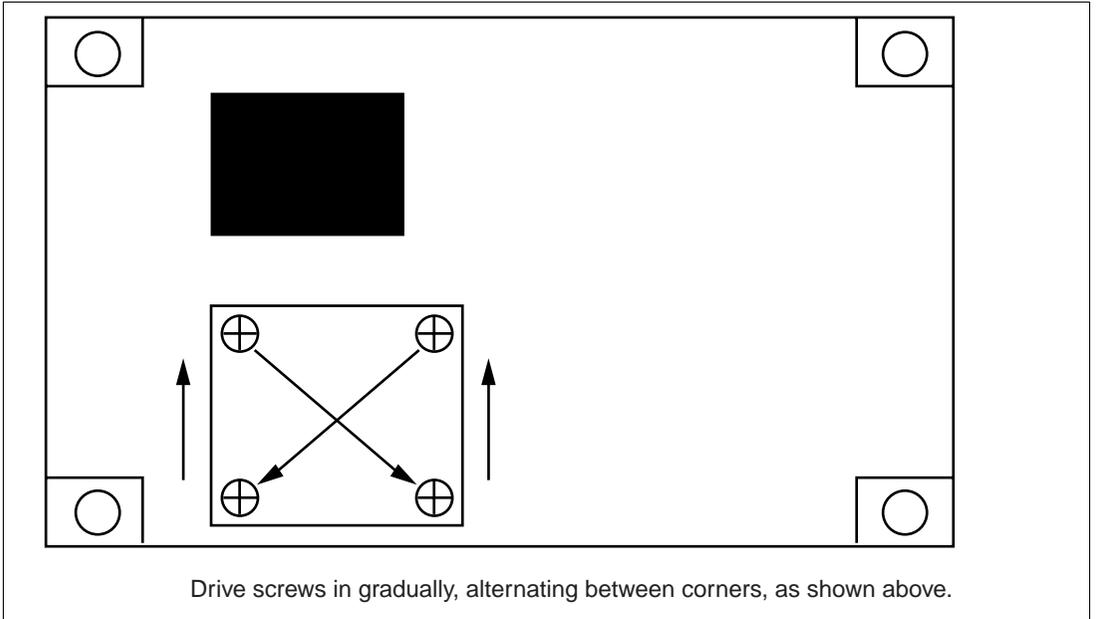

Figure C.2 Order of Tightening the Screws (Top View of the HS7290EBH81H Board)
- (c) Use four screws (M2 × 10 mm) to fix the IC socket on the HS7290EBH81H board to the IC socket on the user system. Drive each of the four screws gradually, tightening each diagonally opposite pair in turn as shown. Do not concentrate pressure on a single screw as this will cause a contact failure or otherwise degraded performance. Hold the IC socket in place by hand to prevent the application of pressure due to the force of rotation (see figure C.2, Order of Tightening the Screws).